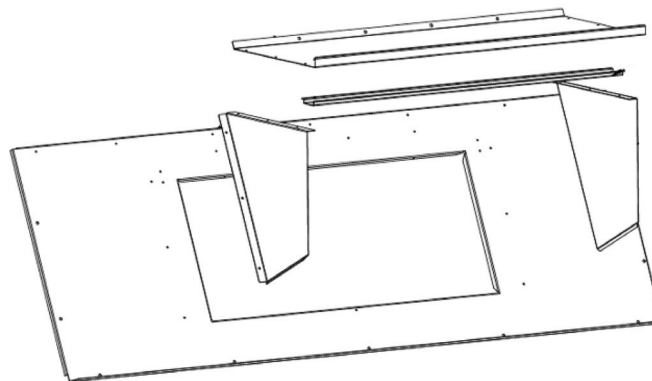

Fig. 28 — Barometric Hood Exploded View
3. Install parts as shown in the following exploded view (Fig. 28) using the seal strip and screws provided in the parts box.